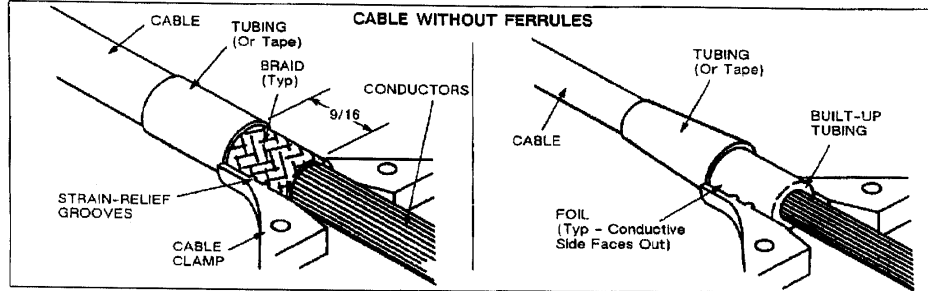

Fig. 3
If cable diameter is too small to fit properly into strain relief, apply heat-shrinkable tubing before working braid over cable jacket to build up the outside diameter of the cable. The inside diameter of the heat-shrinkable tubing should be no more than twice the outside diameter of the cable. See Figure 3.
3. ATTACHING CABLE CLAMP ASSEMBLY (Figure 3)
ductors. See Figure 3. Refer to Instruction Sheet IS 2607 for proper application of tubing. Use an electric heat gun as the heat source.